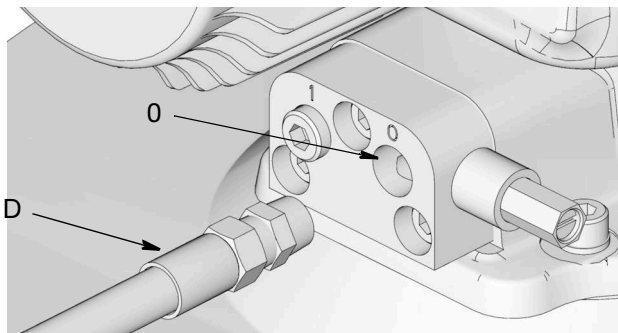

FIG. 53: Lubricant Outlet Connection
- 28. Connect the timer/controller (F) (user supplied, if used).
- 29. Connect High Pressure Lubricant Supply Line (D) to the Lubricant Output Connection (O) (FIG. 53) on the Vent Valve or Manifold.